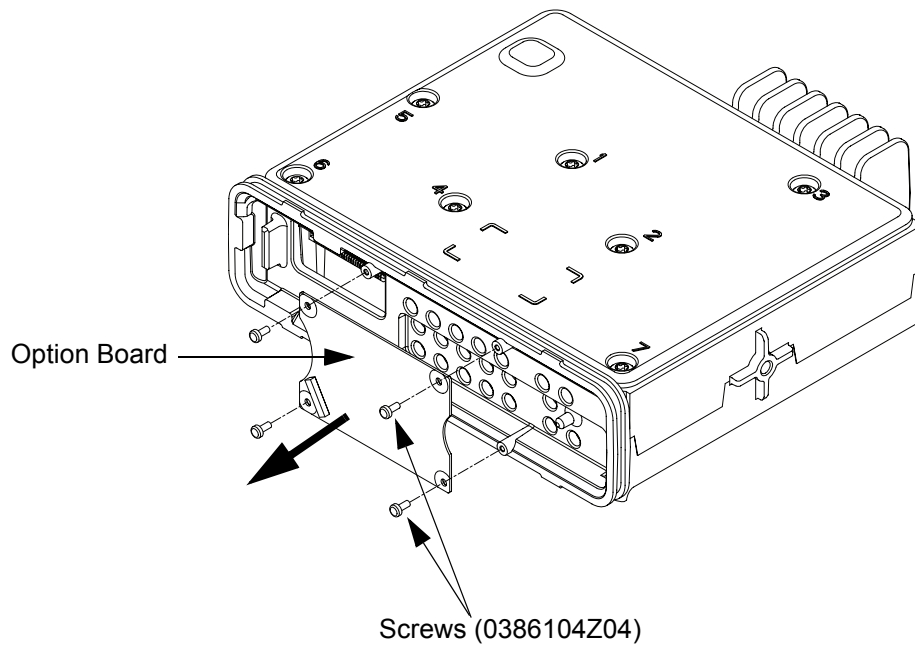

Figure 5-20 Removing Option Board from Radio Assembly
2. Remove the four screws and the option board from the radio assembly using the T6 TORX™ driver as shown in Figure 5-20.